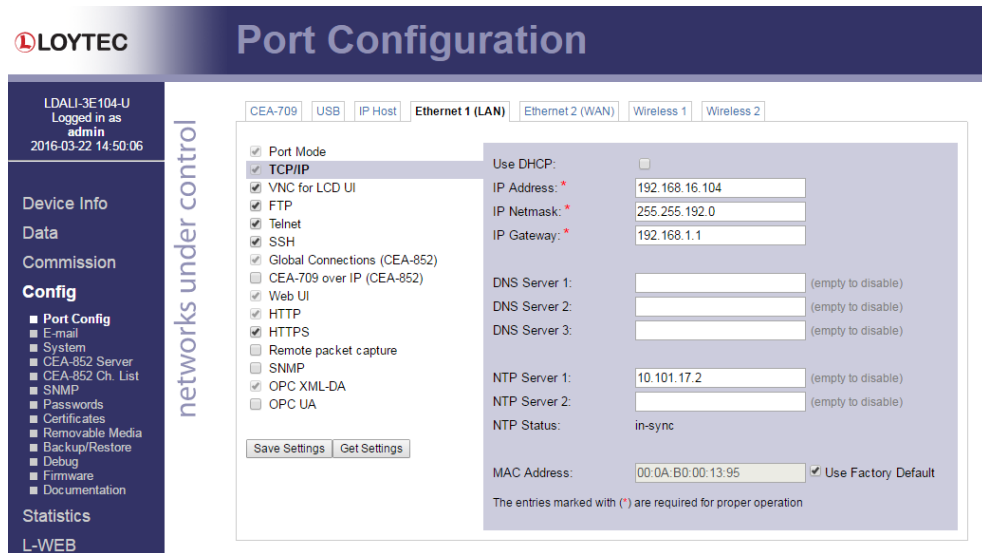

Figure 15: Enter IP address and gateway.
- The Config menu opens. Click on **Port Config** in the Config menu and select **Ethernet 1 (LAN)** tab. Enter the IP address, the IP netmask, and IP gateway for this device as shown in Figure 15.